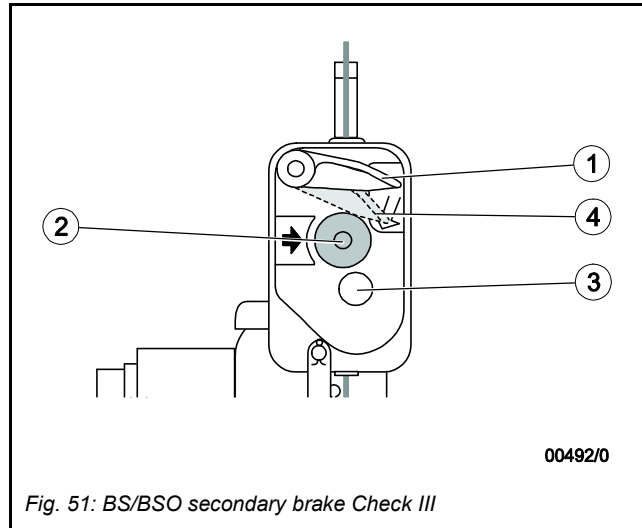

Fig. 51: BS/BSO secondary brake Check III
- (1) Lift platform 3 ft. (1 m) above ground or safe surface, and push EMERGENCY STOP button (2) of the BS/BSO secondary brake (Fig. 51).
- Reset BSO by pushing down control lever in open position (4) (see Fig. 51).
- (1) With the brake opened (see above) turn the hand wheel counter-clockwise (X- and L-series) until the hoist supports the load.
- (2) CASE (A): Reset BSO overspeed device by pushing down control lever (1) until it locks in the open position (4) (Fig. 51).
- (3) CASE (B): The BS slack wire rope device is automatically opened by the transfer of the load to the primary wire rope.
- (4) Restore hand wheel (C) into its storage position, and put back cap (B) on the motor fan cover.
- (5) Continue with manual descent.
- (6) Send the hoist to the supplier for testing or repair or send it to a repair shop agreed by him.
- (2) To reset BS/BSO secondary brake: Raise the platform until the hoist supports the load. Push the control lever in the OPEN position (4) (Fig. 51).
- (3) If the BS/BSO secondary brake has automatically closed on the primary wire rope, i. e. control lever (1) has returned to CLOSED position (see Fig. 51)
- CASE (A):